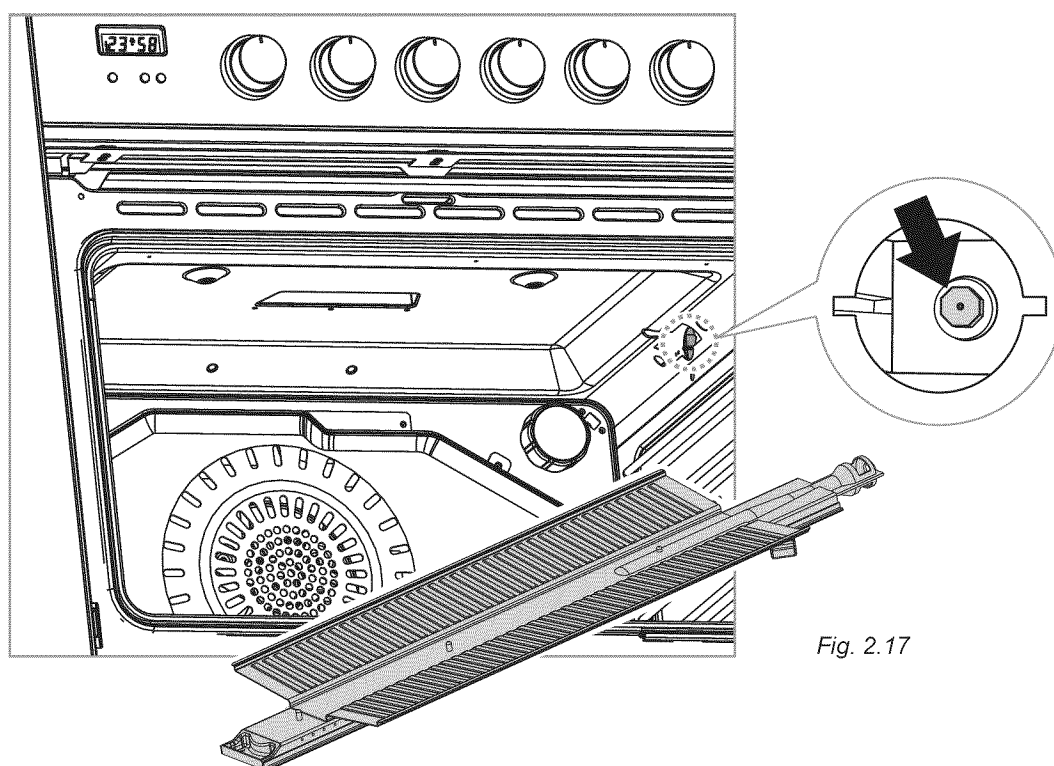

Fig. 2.17
- Withdraw the burner as shown in figure 2.17.
- Using a 7 mm box spanner, unscrew the injector (indicated by the arrow in fig. 2.17) and replace it with a new one selected in accordance with the "Injectors table".